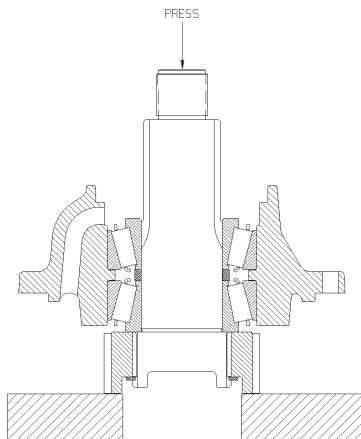

Fig. 31
1. Remove front output carrier, both bearings, and front output shaft gear as shown. See Fig. 31.